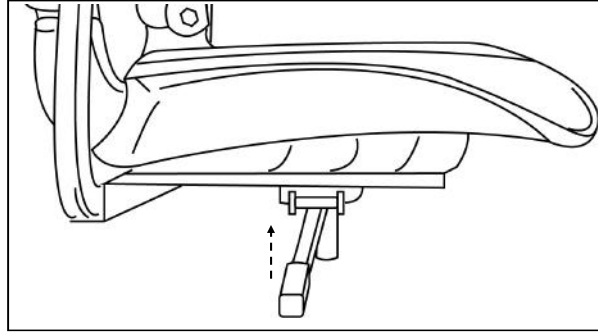

Figure 8: Seat Rotation Adjustment
1. Pull up on the seat rotation lever and rotate the seat to the desired position. See figure 8.